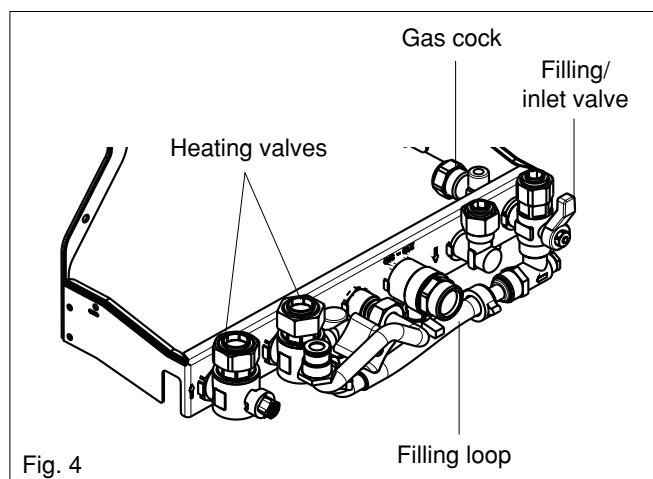

Fig. 4
3.1 HOW TO TOP-UP THE SYSTEM PRESSURE (fig. 4)
- Locate the filling/inlet valve found at base of the boiler (see fig. 4 & fig. 5).
- The filling loop (fig. 4) may have been disconnected from the filling/inlet valve and heating flow valve. If so reconnect unscrewing the caps as necessary.